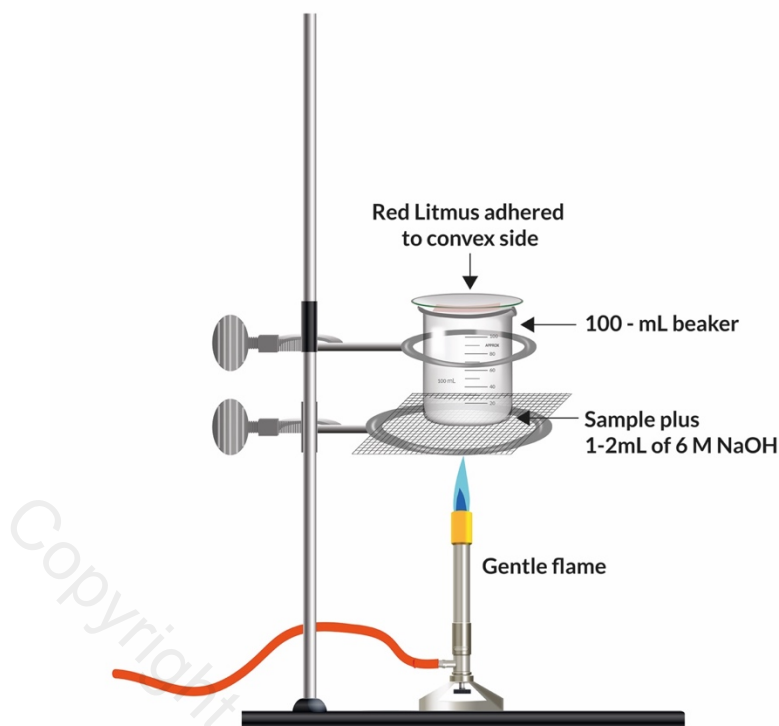

Figure 3 Absorbing NH_3 vapors on red litmus
1. **Prepare the Sample.** Transfer ~ 5 mL of the *original* reference solution to a 100-mL beaker, support it on a wire gauze, and heat until a moist residue forms (**do not evaporate to dryness!**). Moisten the residue with 1-2 mL of deionized water. Moisten a piece of red litmus paper and with water attach it to the convex side of a small watch glass (**Figure 3**). Cover the beaker with the convex side *down*.